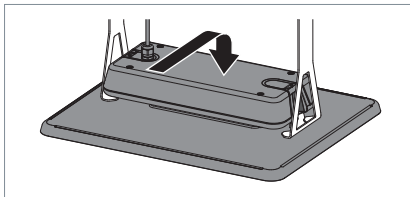

Fig. 4: Hanging the luminaire into the ceiling holder.
- ▶ Hang the luminaire into the ceiling holder, see Fig. 4.